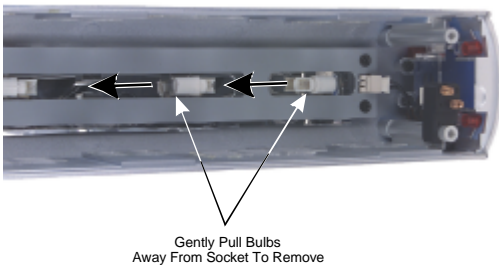

Figure 7
2. Pull light bulbs straight out and push new bulbs straight in to replace. (See figure 7)